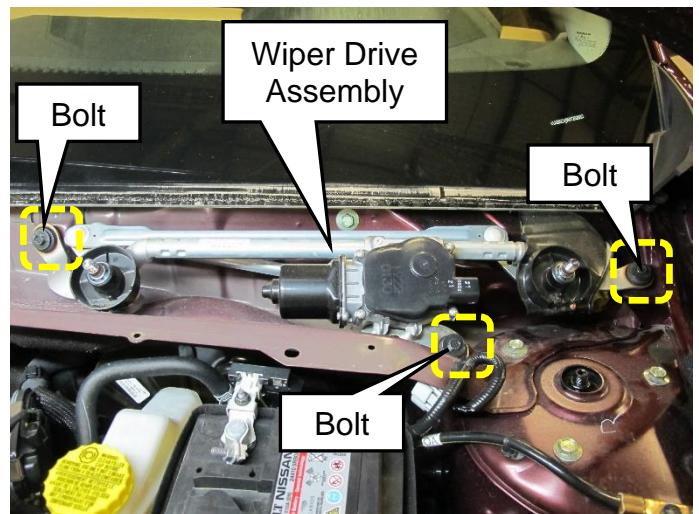

Figure 12
- Remove the (3) 10mm retaining bolts as shown in Figure 12